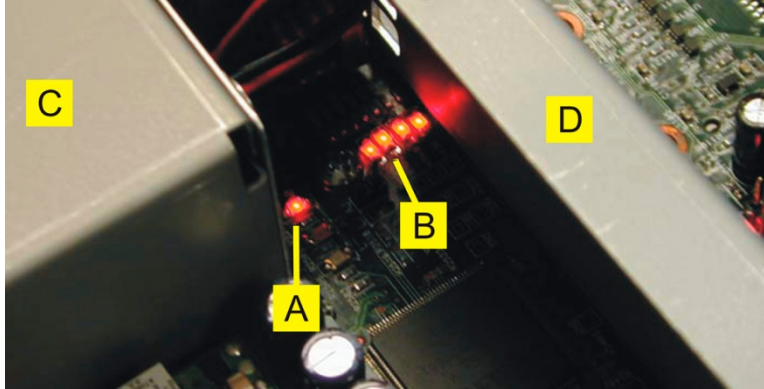

Fig 6 Power supply check.
16. Reconnect the power cord. Turn on the APx instrument, and check the LED indicators in the top right corner of the BRIO module, between the power supply module (C) and the support frame (D) (Figure 6). The LED at point "A" should be blinking (active clock), and the LED at point "B" should be constantly lit (+5 volts DC).